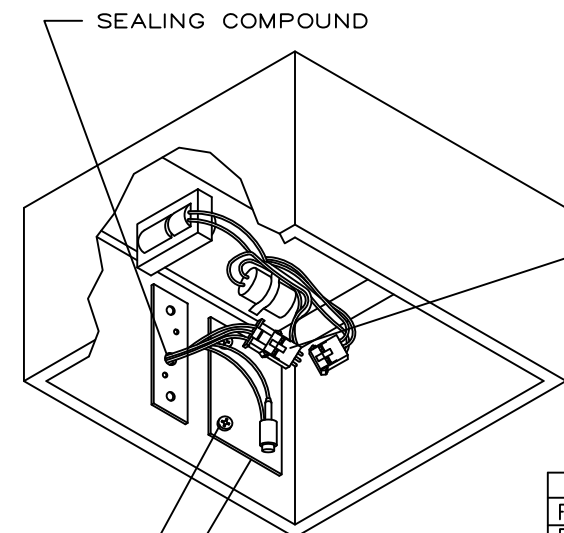

FIGURE 2
5. ASSEMBLE FUSE KIT ③ INTO HOUSING, AS SHOWN IN FIGURE 2, USING (2) 8-32 X 1/4" SCREWS ④.
6. PLUG 6 POSITION PLUG ② INTO FUSE KIT ③. ALL PLUGS AND RECEPTACLES MUST BE POSITIONED IN TOP RIGHT HAND CORNER AREA TO PREVENT THEM FROM OVERHEATING.
8. INSTALL FUSE(S) INTO FUSEHOLDER(S). REFER TO CHART FOR RECOMMENDED FUSE AMPERAGE AND TYPE. FUSES MAY BE ORDERED FROM YOUR ELECTRICAL DISTRIBUTOR.